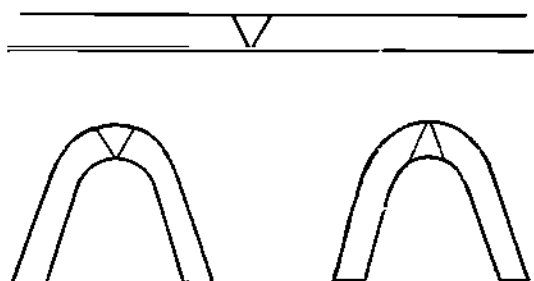

Figure 9-12. Guided Bend Test
**Guided Bend Test** Cross sections are cut through the weld, and bent against the face or the root. Side bends are, as the name implies bent (Figure 9-12) sideways. This reveals lack of fusion, slag inclusions, porosity, cracks and brittle welds (coarse grain).